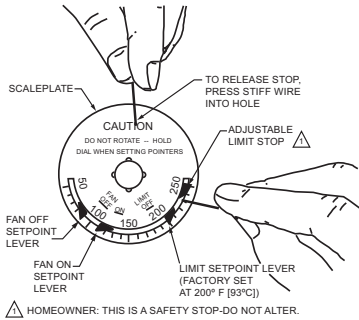

Fig. 10. Changing the high limit stop.
Disconnect power supply before beginning installation to prevent electrical shock or equipment damage. All wiring must comply with local electrical codes and ordinances or in the absence of local codes with the National Electrical Code ANSI C1-1981-NFPA 70. Follow burner or furnace manufacturer's instructions if available; otherwise, see Fig. 10 and proceed as follows.
When adjusting the fan and limit set point levers (Fig. 10), hold the scaleplate dial to keep it from turning and straining the sensing element. Move each indicator lever to the control point recommended by the burner or furnace manufacturer. Use gentle finger pressure.
1. Push the small end of Limit Adjust Tool (196722) through hole in scaleplate (located at caution marking) to depress the stop disc not more than 1/16 in. (1.6 mm) to release stop lock (Fig. 10). Stop disc is on back of scaleplate.
2. While depressing the stop disc, insert the long end of Limit Adjust Tool next to limit stop (Fig. 10) and move the stop to desired setting. *If the L4064 is a replacement control, high limit stop setting should be the same as that of the control being replaced.* (Move stop clockwise to lower the setting, counterclockwise to raise it.) Then remove the limit stop adjust tool.